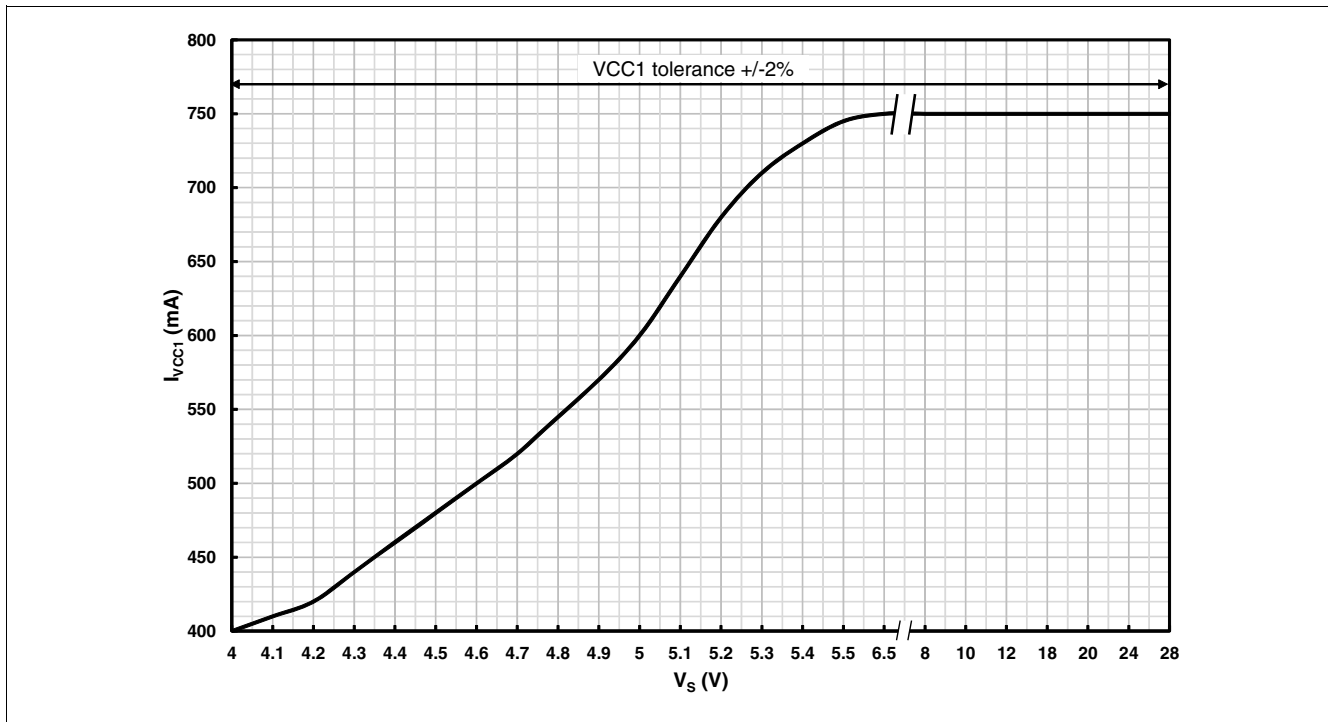

Figure 13 Maximum DCDC buck current capability versus V_S .
- 1) Typical maximum current capability is given in Figure 13. The external components are in accordance with the application information (refer to Chapter 15).
Note: The **Figure 13** is based on characterization results over temperature with external components specified in **Chapter 15.1**.